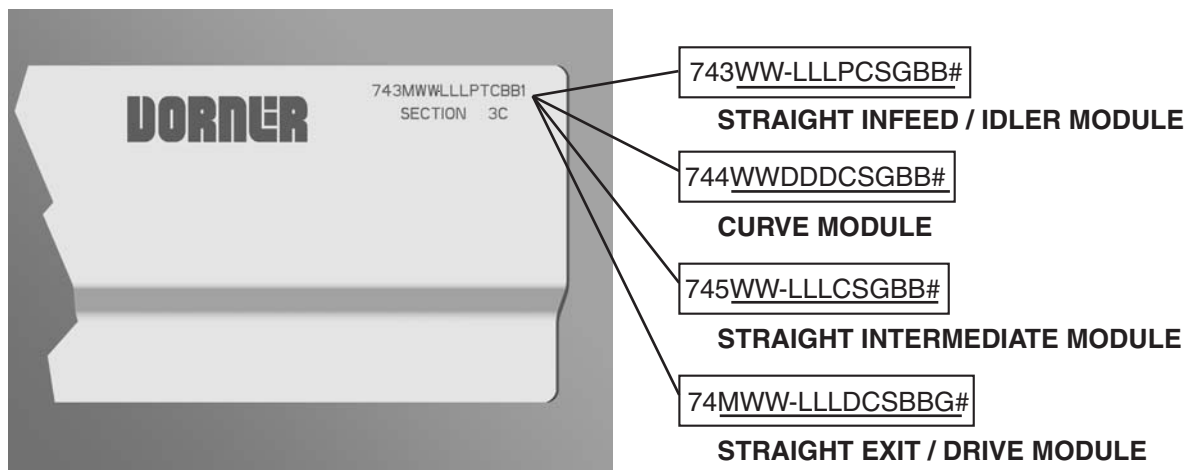

Figure 74
Refer to your serial and model number plate (**Figure 74**). From the model number, determine conveyor width (WW), length (LLL), pulley type (P), stand location, cleaning options (C), stand holes (S), guide profile (G), belt material (BB), degree of turn (DDD), drive/pulley type (D) and module serialized sequence (#).